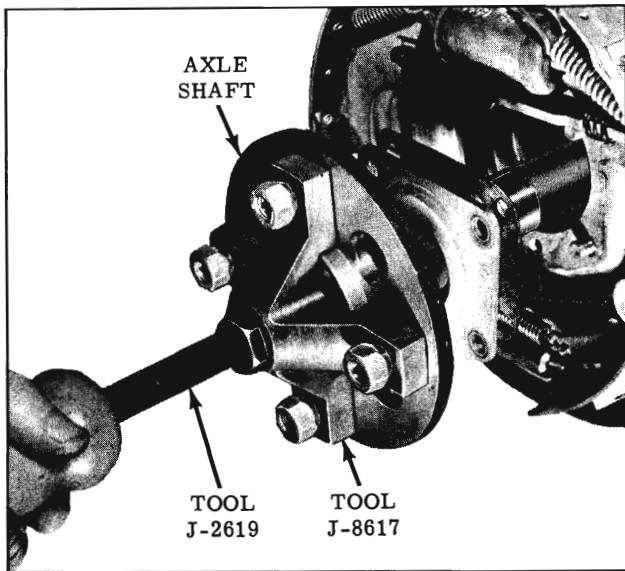

Fig. 6-132 Removing Axle Shaft
3. Attach Puller J-2619 with Adapter J-8617 and pull axle from housing. Care must be taken not to loosen backing plate from housing as it may damage brake line. (Fig. 6-132)